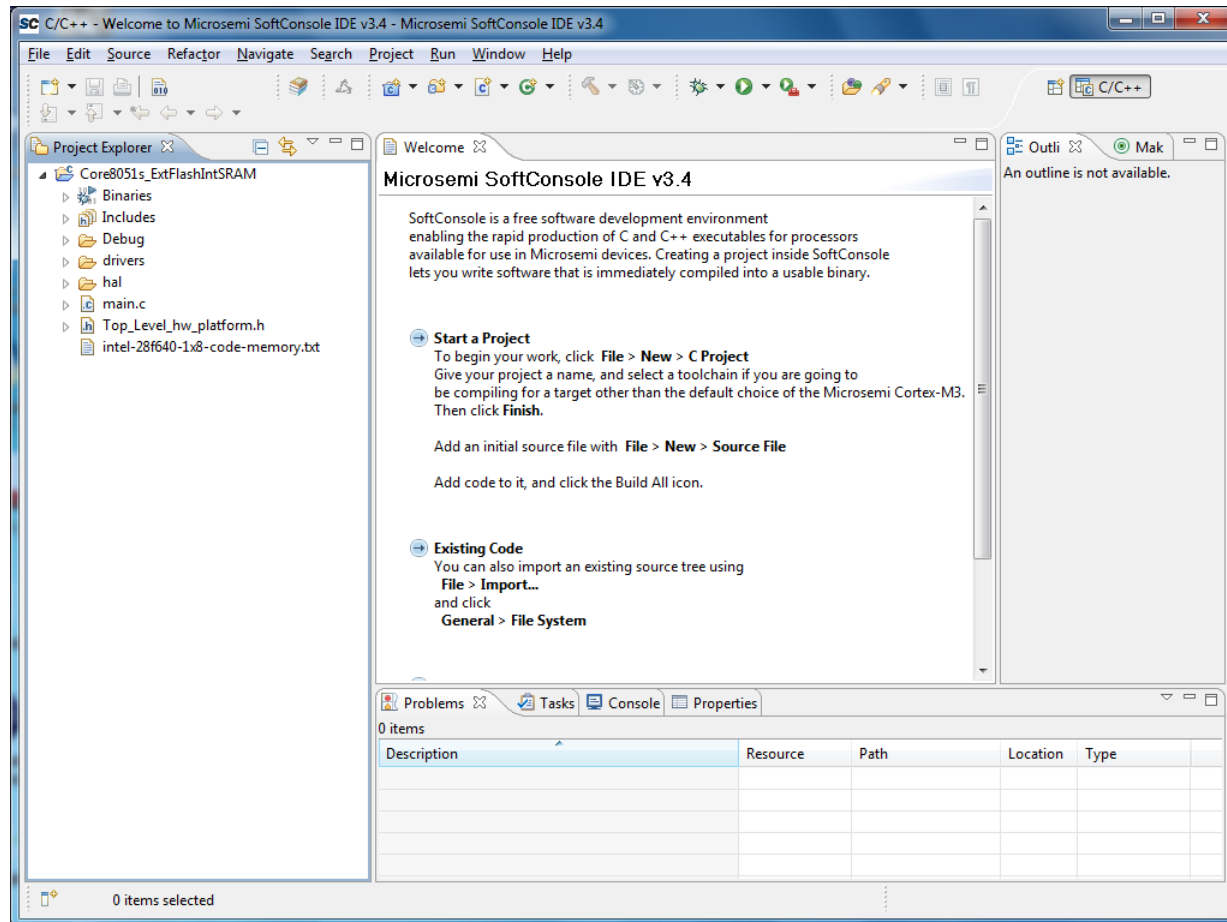

Figure 15 • SoftConsole Project Window
- Open the **SoftConsole** project after successfully programming the device, as shown in Figure 15.